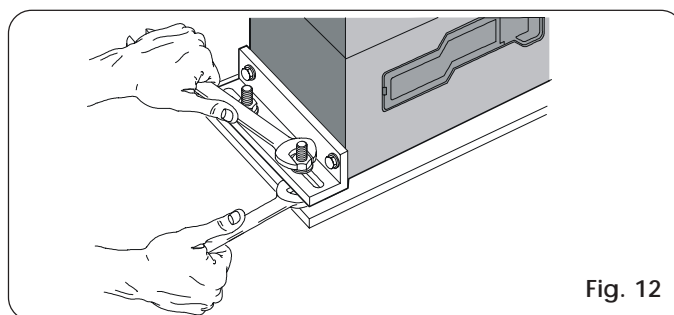

Fig. 12
- 5) Secure the gearmotor on the foundation plate, tightening the nuts as shown in Fig.12.